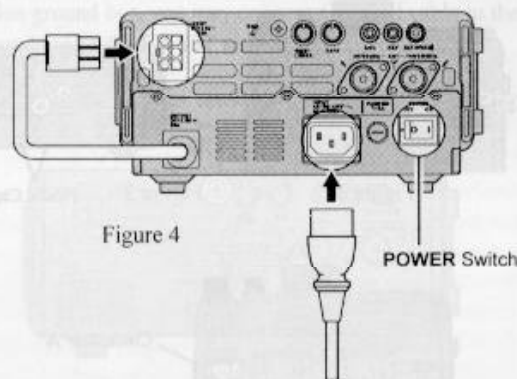

Figure 4
4. Connect the 6-pin Molex plug from the **FP-30** to the **INPUT** jack on the rear panel of the **FT-897** (Figure 4).